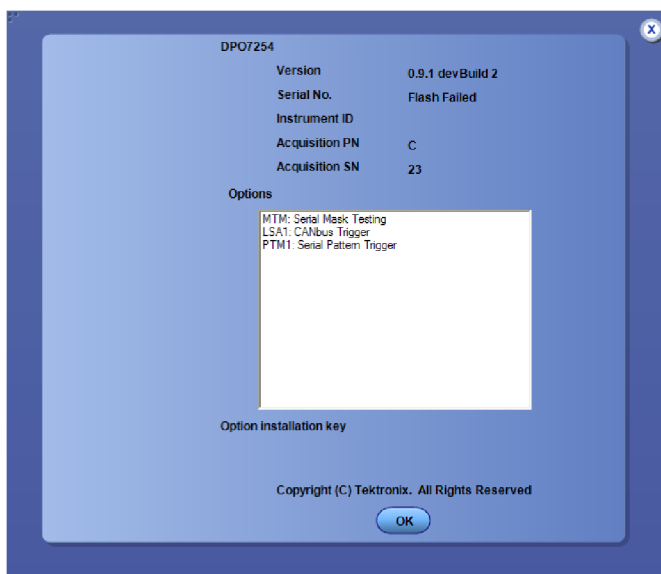

Figure 1: About TekScope property sheet
3. Verify that the option or application that you installed is in the scrollable Options list (see Figure 1).
The example in Figure 1 shows that the following options are installed: